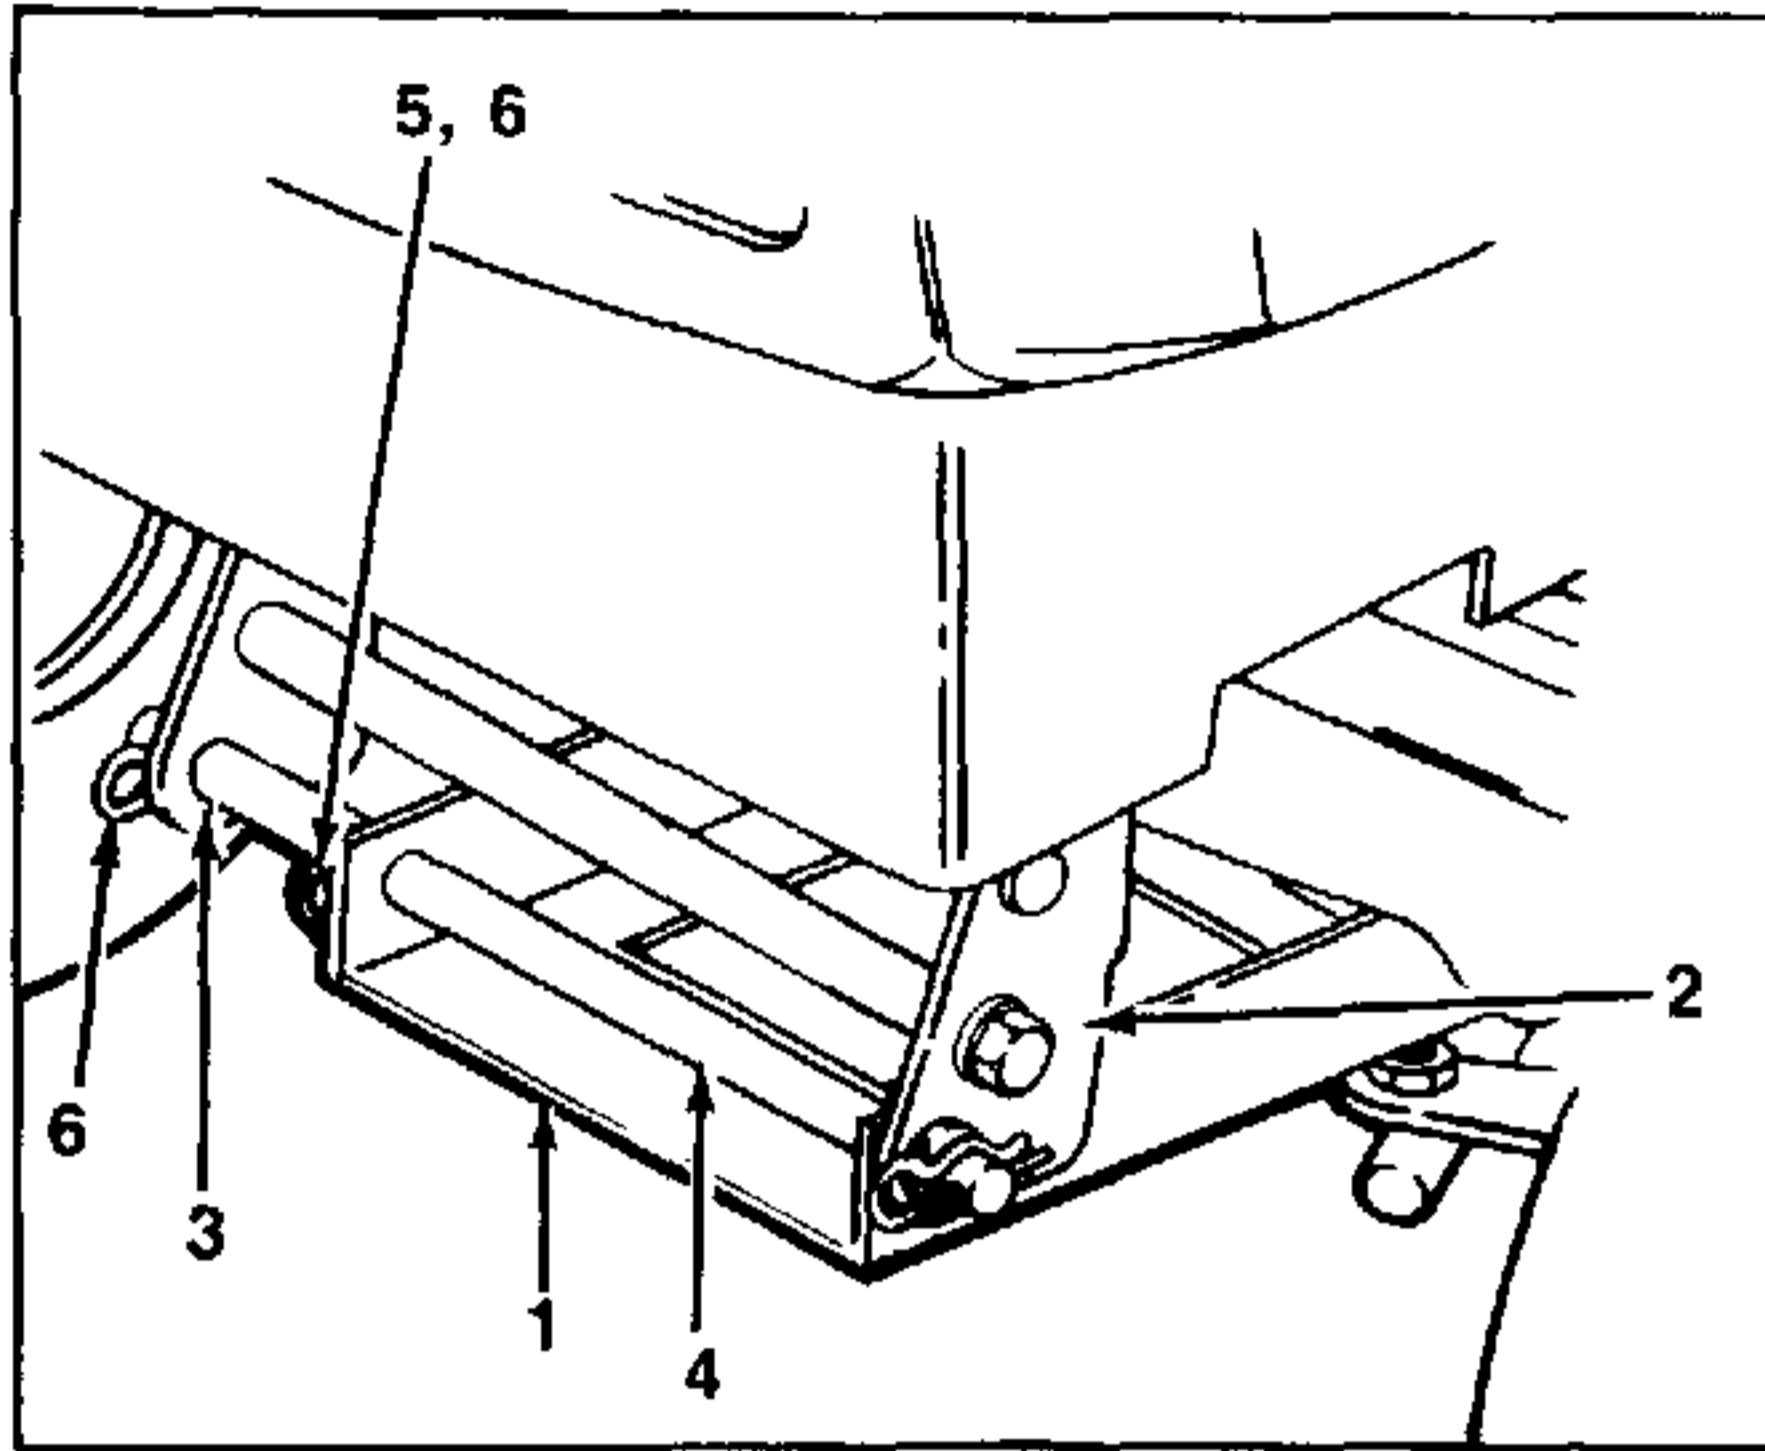

FIGURE 10.
11. With the left front wheel turned to the left, attach the front hanger assembly to the front hanger bracket by passing the tractor hanger rod through the bottom mounting holes of the front hanger bracket. Remember to attach the central flat washer to the rod after it passes through the right side of the front hanger assembly. Refer to figure 10. Secure the tractor hanger rod with flat washer and hairpin coppers.